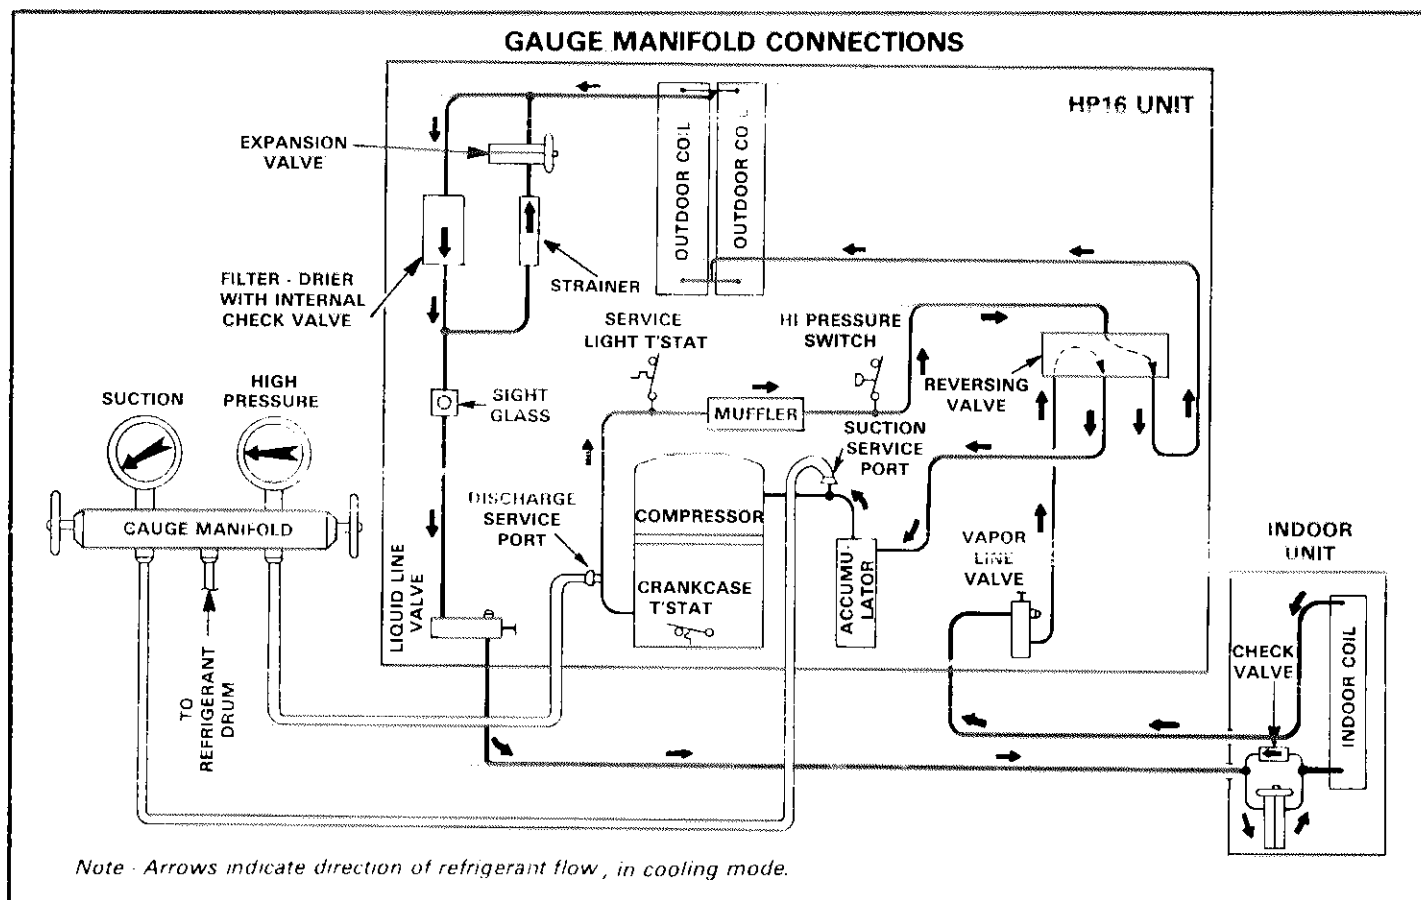

FIGURE 1
- 2 - Checking Charge or Charging - Connect high pressure side of gauge manifold to discharge line gauge port. Connect suction side of gauge manifold to suction line gauge port. Refer to Figure 1.